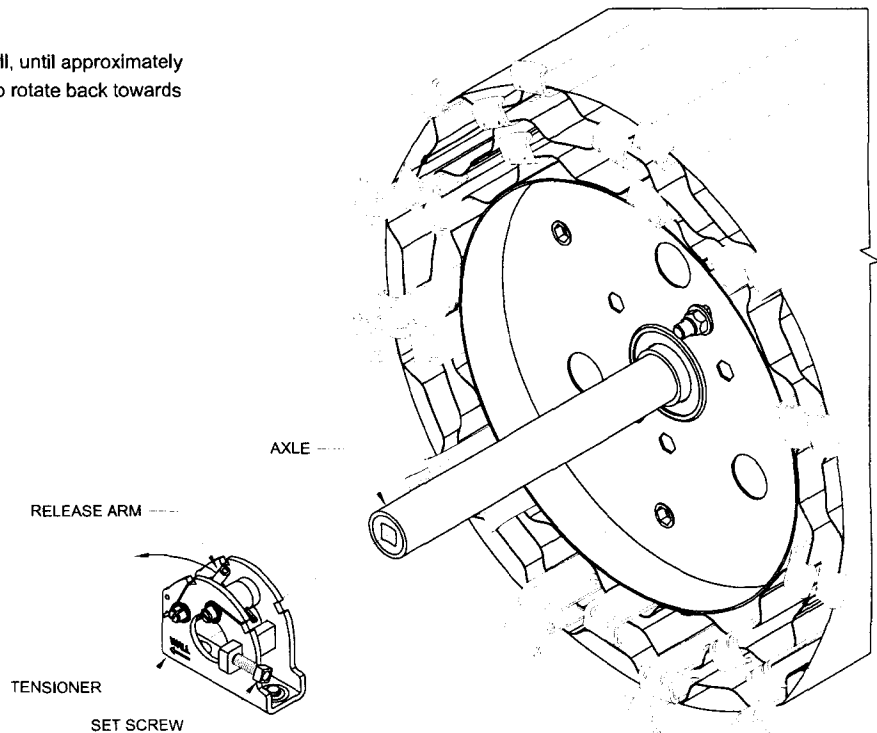

FIGURE 12: TENSIONER TO AXLE
- ⇒ Slide tensioner over axle, with arrow pointing toward wall, until approximately $2\frac{7}{8}$ " of axle is outside of tensioner. Allow release arm to rotate back towards starting position. See Figure 12.